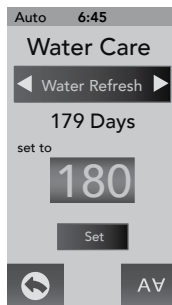
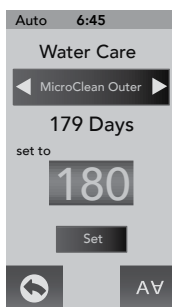
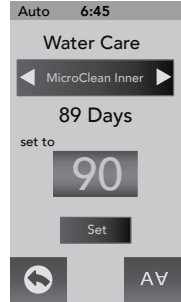

Figure 12.7d
Figure 12.7e
Figure 12.7f
1. From the “Water Care” Menu you can to set the “Water Refresh” timer, Figure 12.7d.
A programmable filter timer can be set to remind you when to clean or replace the MicroClean Outer Filter. Tap  (Figure 12.7d) until you reach the “MicroClean Outer” tab to enter the Programming Menu (Figure 12.7e).
1. From the “Water Care” Menu you can to set the MicroClean Outer timer, Figure 12.7e.
A programmable filter timer can be set to remind you when to replace the MicroClean Inner Filter. Tap  (Figure 12.7e) until you reach the “MicroClean Inner” tab to enter the Programming Menu, Figure 12.7f.
- From the “Water Care” Menu you can to set the MicroClean Inner timer, Figure 12.7f.